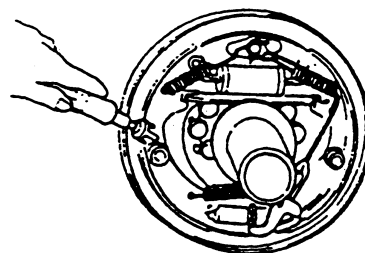

Fig.2-14
(3) Remove three hold-down springs of primary brake shoe. See Fig. 2-14.